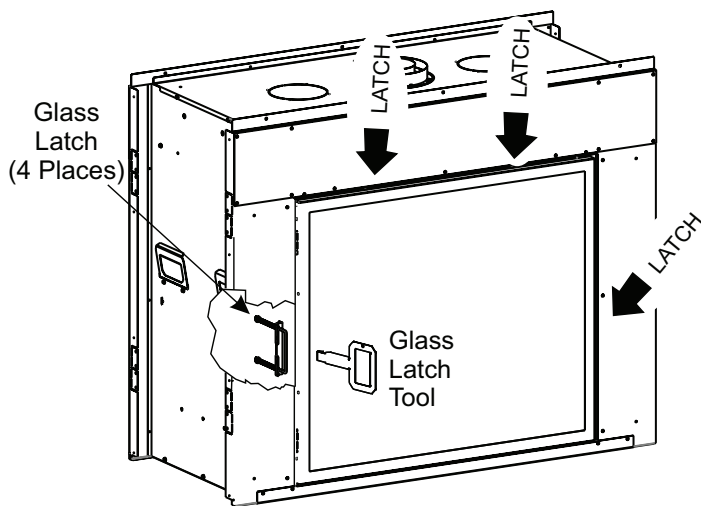

Figure 63
- Check all latches or other door retention components for proper operation, tension, and relief mechanisms are free from obstructions. **See Figure 63.**